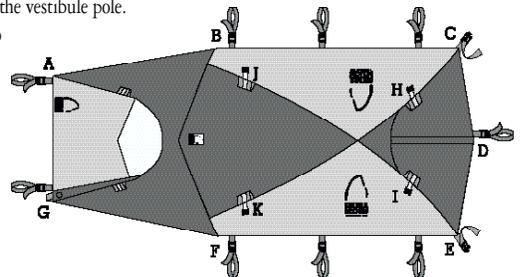
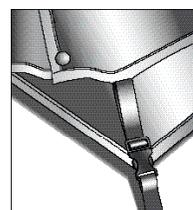

Figure 5: Flysheet (top view)
Figure 6: Fly Clip
M. At points 1 through 4 on the inside of the fly there are small side release buckles. Attach these buckles to their mates, points 1-4, on the tent body. At points A, G, J, and C there are 3/4" LadderLocs with adjustable grommets webbing straps. Slip the grommets over the pole ends at these points (Figure 5). Attach the 3/4" side-release "Fly Clip" (Figure 6) buckles at points B and D to their corresponding buckles on the tent body. By first clipping the blue webbing strap on the rainfly to a blue webbing